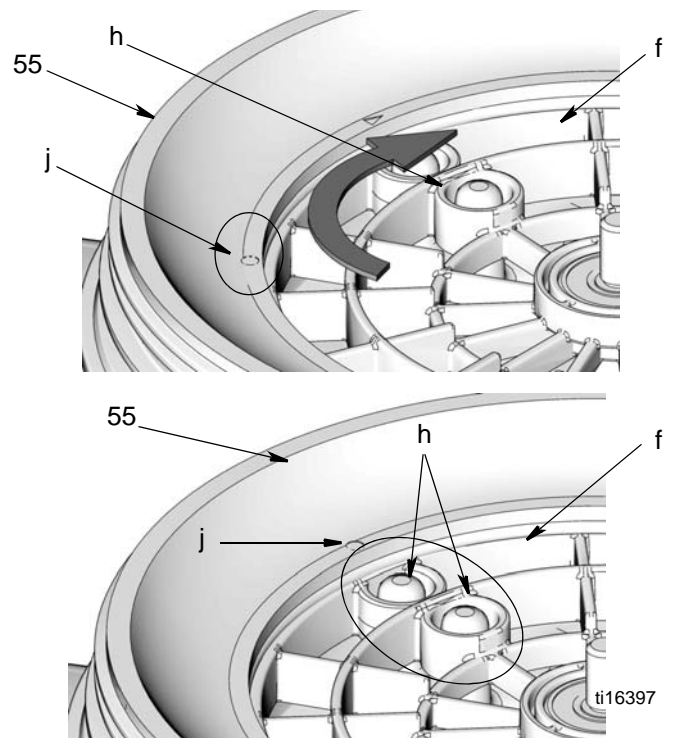

FIG. 6
2. Place a strap wrench around the reservoir adapter (55). Turn the reservoir adapter clockwise until the circle (j) stamped into the reservoir adapter aligns with the two circular openings (h) in the ricer plate (f) as shown in FIG. 6.